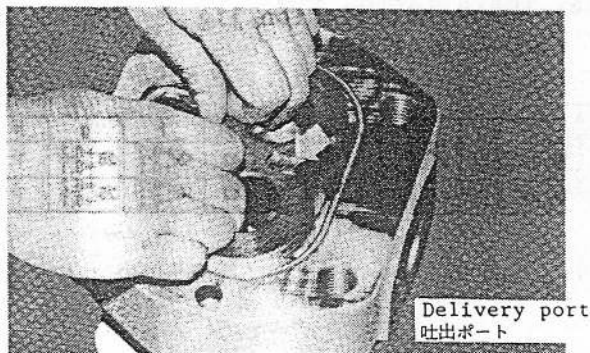

Fig. 45
6. Insert side plate ⑧ into the gear housing, with the recess (shown by arrow) on the delivery port side, and with the side plate kept horizontal. (Fig. 45)